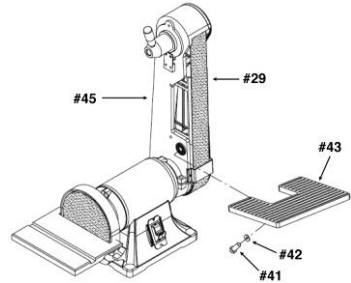

Fig. 2
1. Mount the belt table (#43) to the left side of the belt housing (#45) using hex socket head screw (#41) and flat washer (#42) (Fig. 2).